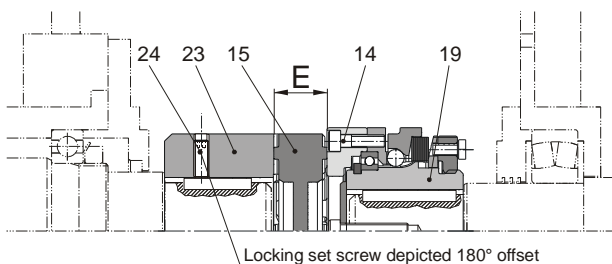

Fig. 6
- The elastomer coupling hub (23) must be secured axially onto the shaft, e.g. using a set screw (Item 24, see Fig. 6).